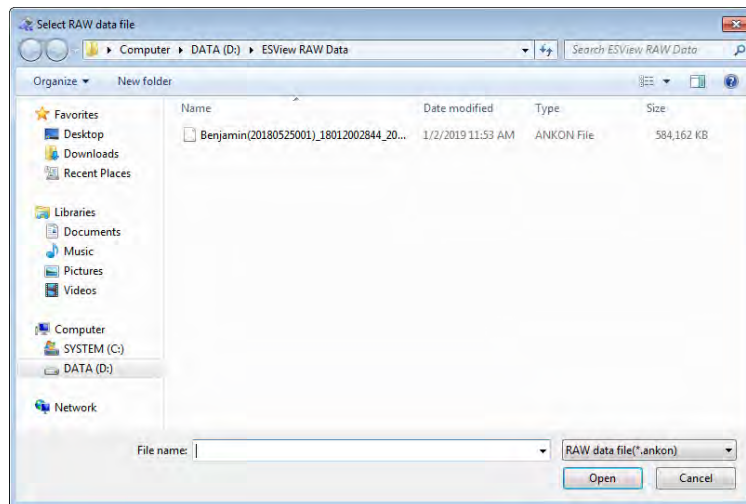

Figure 4-6: RAW Data File Selection Interface
4. To use the quick export mode, select “Export data as RAW file” and click “Start export”. The image data will be exported from the data recorder as a raw data file with suffix *.ankon. To convert raw data file to video file, select “Convert existing RAW file into video files” and click “Start export”, then select a RAW file in the raw data file selection interface (Figure 4-6) and generate the video file.